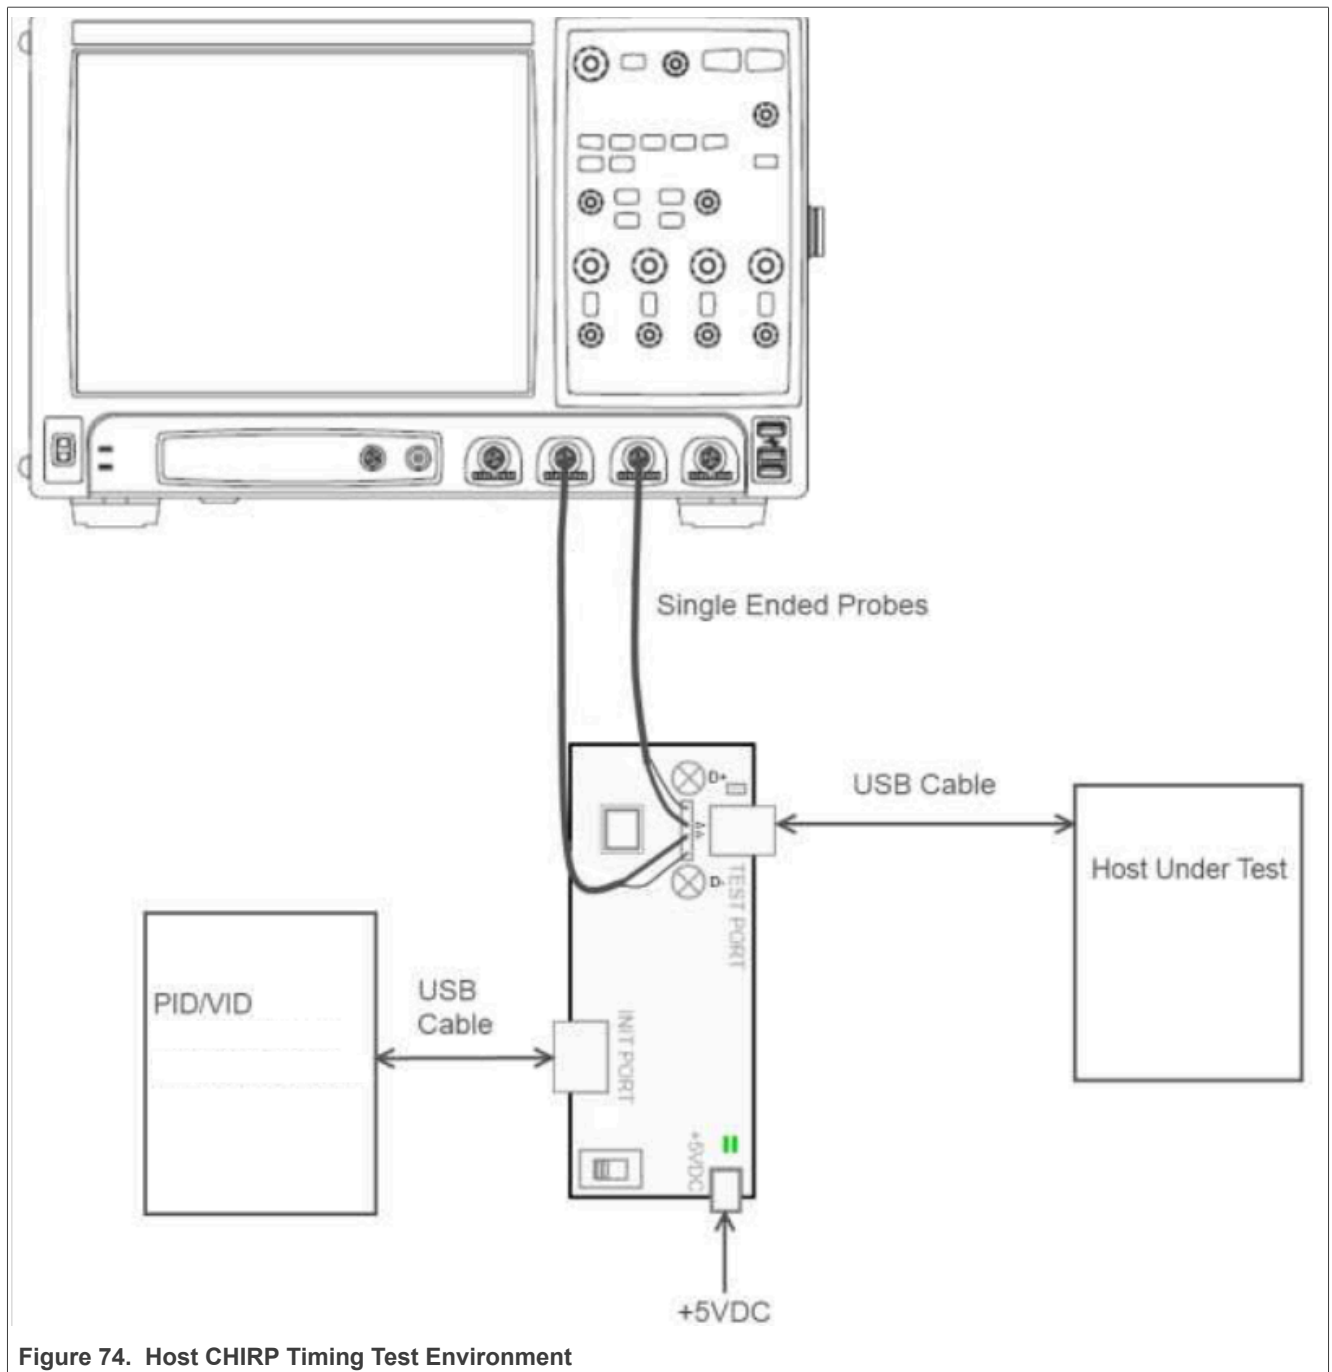

Figure 74. Host CHIRP Timing Test Environment
2. Connect the equipment and test fixture as shown in Figure 74.